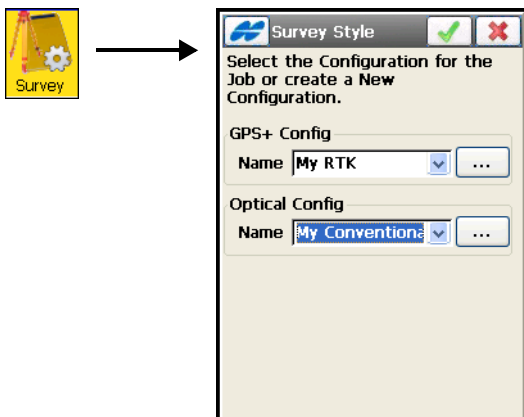

Figure 3-58. Survey Style
On the *Survey Style* screen (Figure 3-58 on page 3-58), select an Optical configuration from the drop-down list; *My Conventional*, *My Reflectorless*, *My Robotic*, or *My Level* for Level configuration. To simulate a real survey, select Manual Mode. In this mode, no measurements are performed, all the data is entered manually.
The *Configurations* screen displays (Figure 3-58).
- Pressing the ok  button returns to the *Survey Style* screen (Figure 3-58 on page 3-58).
- Pressing the ok  button saves the changes and returns to the **Survey Style** screen (Figure 3-58 on page 3-58). Settings are transmitted only when the configuration is used.